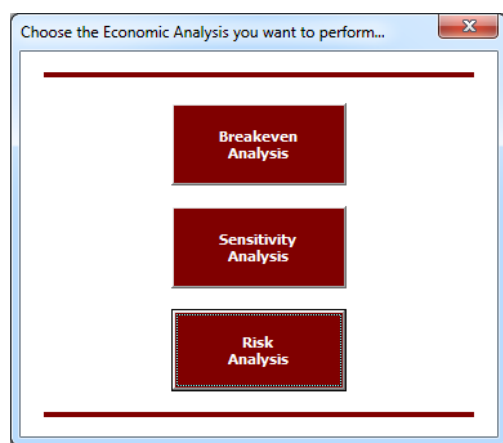

Figure 17: Economic Analyses Results Pop-up
3.5. Economic Analyses – this option allows performing three different types of economic analyses for your raspberry enterprise situation (Figure 17). For more information about these analyses see the section titled Performing Economic Analyses (Section 5).